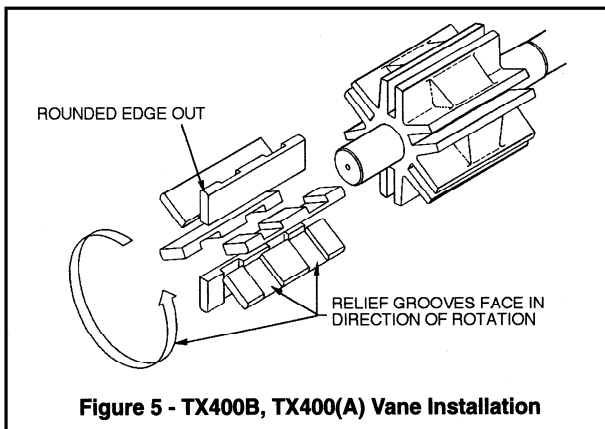

Figure 5 - TX400B, TX400(A) Vane Installation
- b. **TX400B, TX400(A) Series** - The relief grooves in the vanes must face in the direction of pump rotation (see Figure 5).